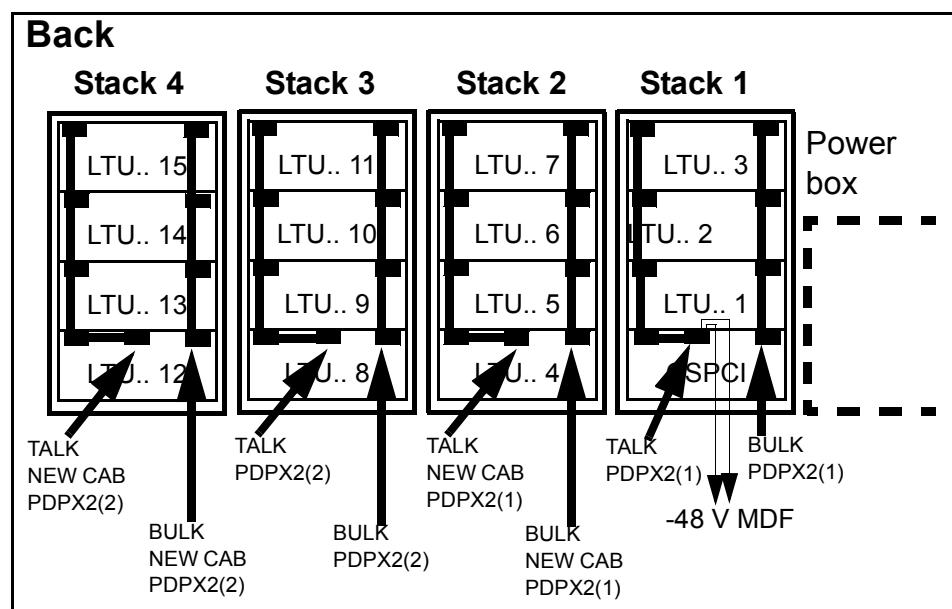

Figure 52 Redundant -48-V connections from PDPX2 to the shelves
2. From PDPX2 (1), stack 1/2, and PDPX2 (2), stack 3/4, connect one -48-V TALK and one -48-V BULK cable to the relevant -48-V connectors on the lower shelves at the back of each stack. Table 9 and Figure 52 show how to connect the bulk and talk cables from the BAMX to the HiPath 4000 cabinets.